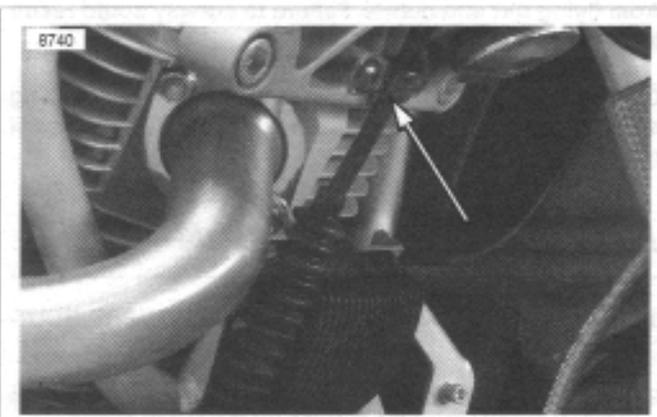

Figure 2-89. Clutch Cable P-clamp
1. See Figure 2-89. Remove p-clamp from front isolator.